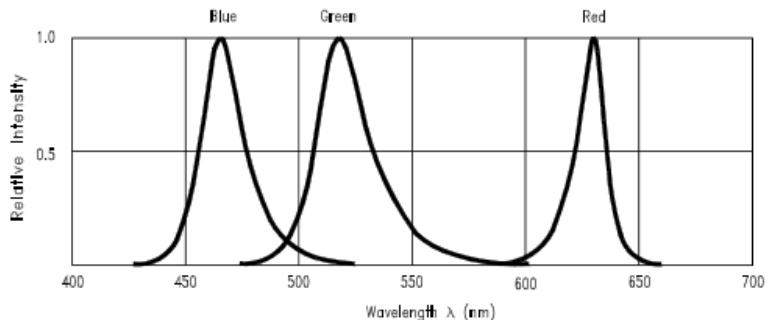

Fig.1 Relative Intensity vs. Wavelength
1. The output spectrum of red color will be guaranteed to meet single peak spec.(Fig.1).